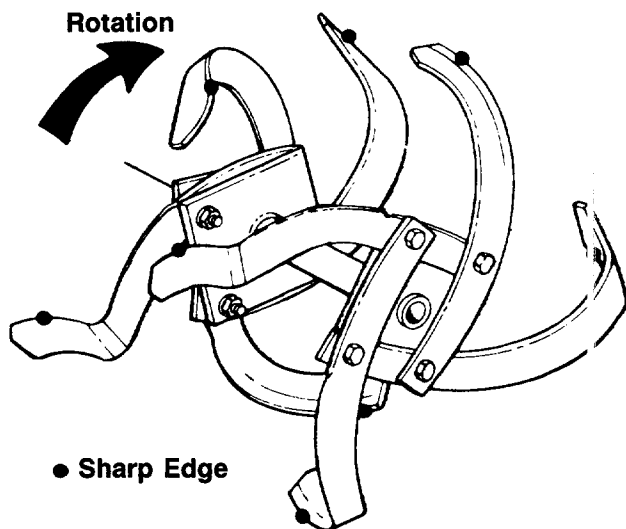

FIGURE 13.
1. Before operating tiller for the first time or if tines have been removed and reassembled for any reason, check to be certain the tines are assembled correctly. **The sharp edge of the tines must enter the soil first as shown in figure 13.** (Figure 13 illustrates the left hand tines, viewed from the left hand side of the tiller. Right hand tines rotate in the same direction as the left hand tines)